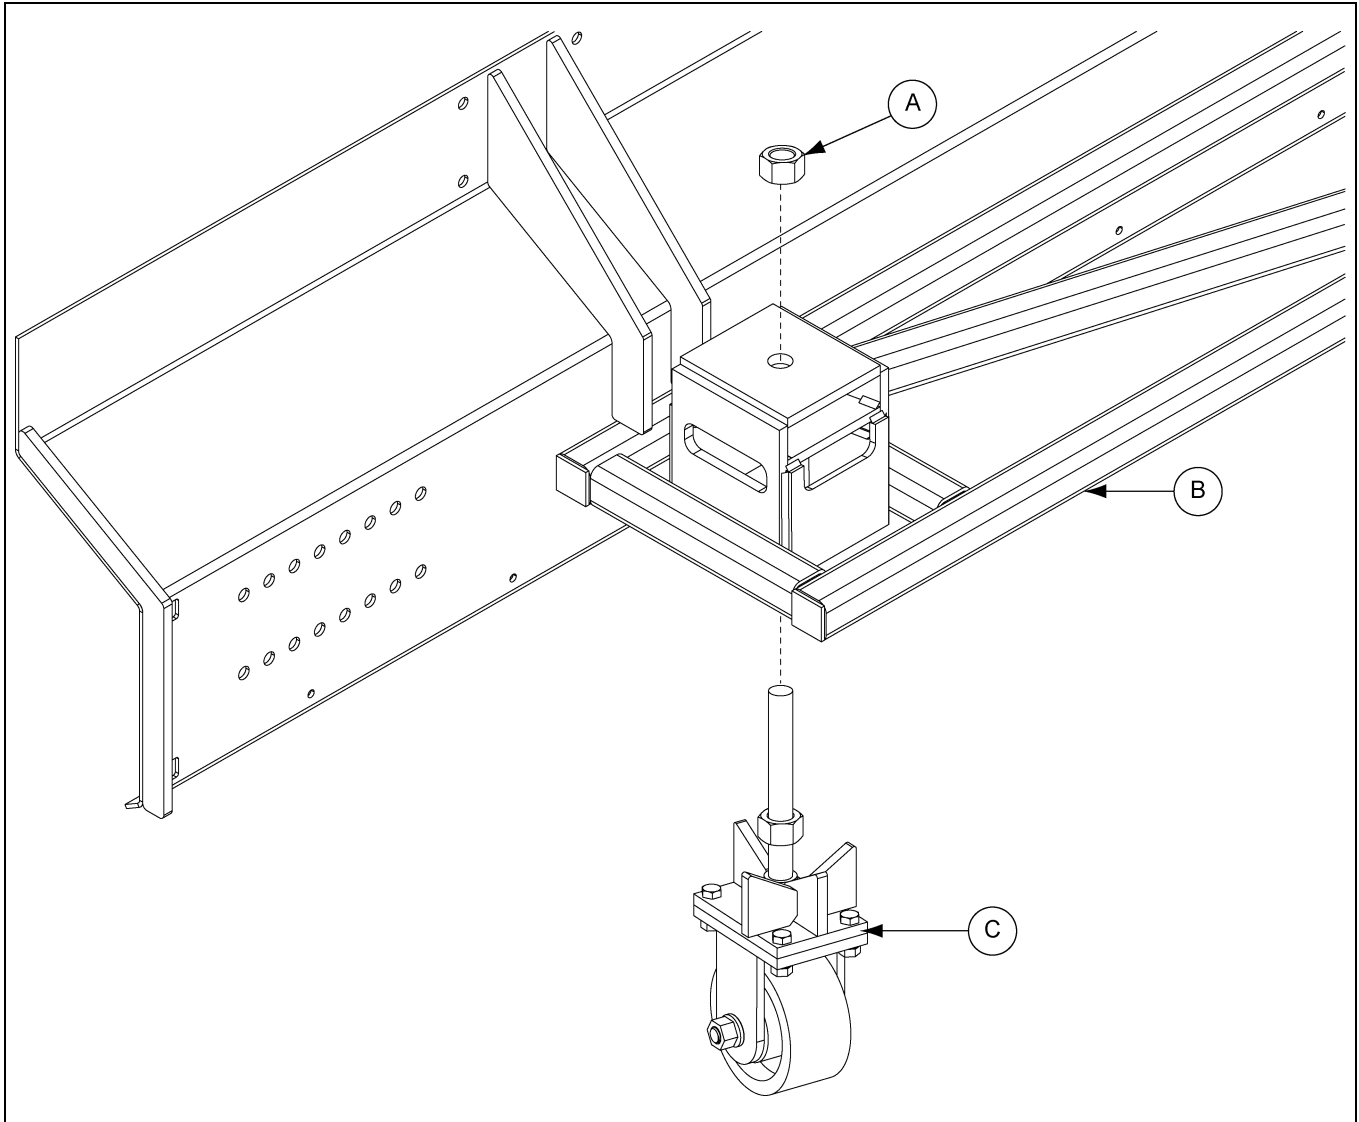

Figure 4K
1. Install all caster wheel assemblies (C) to all sweep shields (B). (See Figure 4K.)
2. Install hex nut (A) to caster wheel assembly (C).